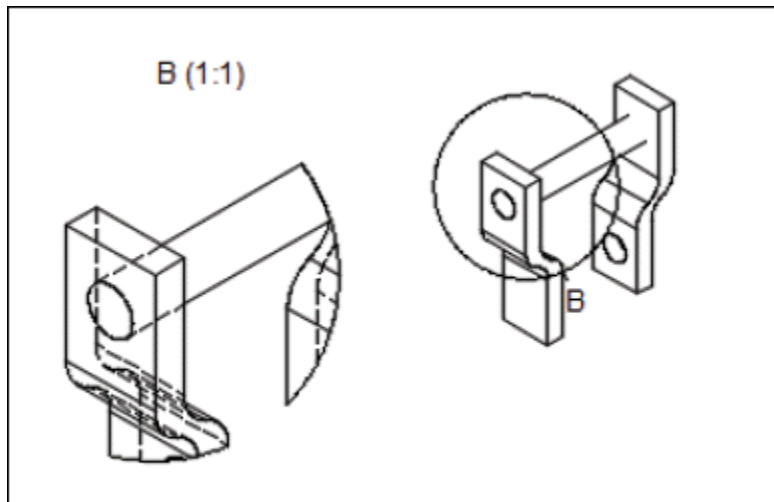

Figure-23. Detailed view created
- After placing the view, set the parameters of detail view in **DRAWING VIEW** dialog box and click on **OK** button. The detailed view will be created; refer to Figure-23.